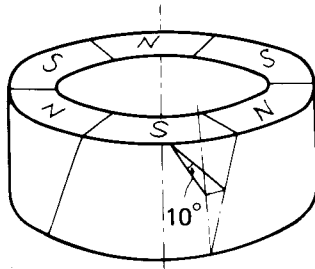

Fig. 17
5. The inner surface of the rotor magnet possesses 6 magnetic poles. As shown in Fig.17, these are tilted by 22.0° relative to the vertical axis.